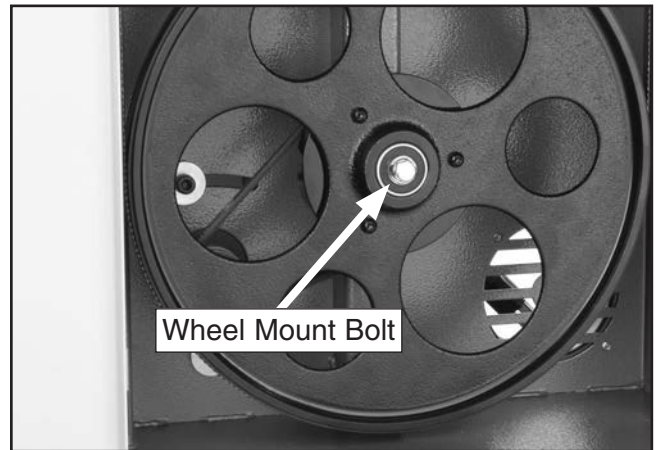

Figure 92. Example of wheel mount bolt.
3. Unthread the lower wheel mount bolt shown in **Figure 92**, and slide the lower wheel off the bearing shaft.